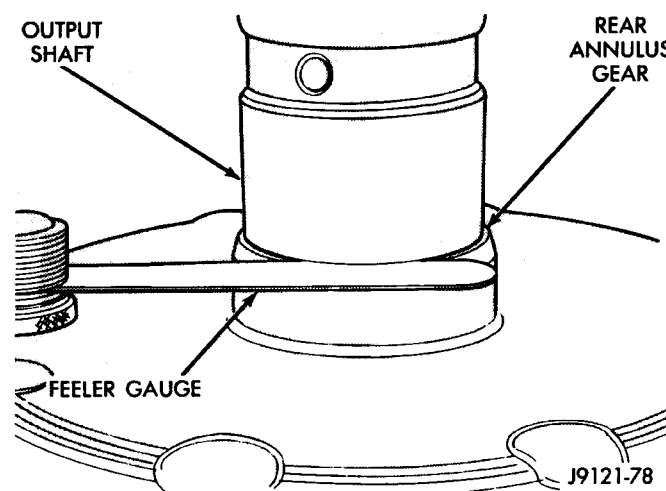

Fig. 192 Checking Planetary Geartrain End Play
(16) Check planetary geartrain end play with feeler gauge (Fig. 192). Insert gauge between rear annulus gear and shoulder on intermediate shaft as shown. End play should be 0.15 to 1.22 mm (0.006 to 0.048 in.).
(17) If end play is incorrect, install thinner/thicker planetary snap ring as needed.